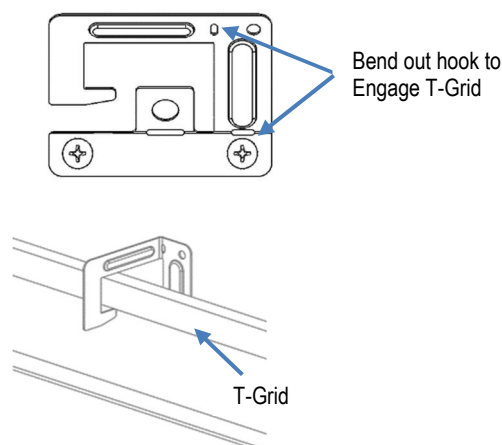

FIG. 9: T-GRID MOUNTING
- From above ceiling, bend the attached T-Grid clips over the T-Grid ceiling on all 4 corners to secure the fixture to the T-Grid. See Figure 9.